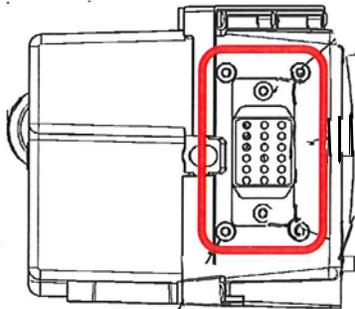

Figure 2: Connector View
1. Identify an ES Machine with a Sevcon Module by looking at the Side View (Ref: Figure 1) or Connector View (Ref: Figure 2) of the ES Ground Control Module.
Note: Connector views below (Ref: Figure 2) indicates if machine is equipped with a Sevcon or Zapi Control Module.